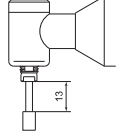

Fig. 12
- Do not exceed 13mm of overhang for mounted grindstones as shown in Fig. 12. If the overhang must exceed 13mm, reduce the motor speed in accordance with Table, 3.